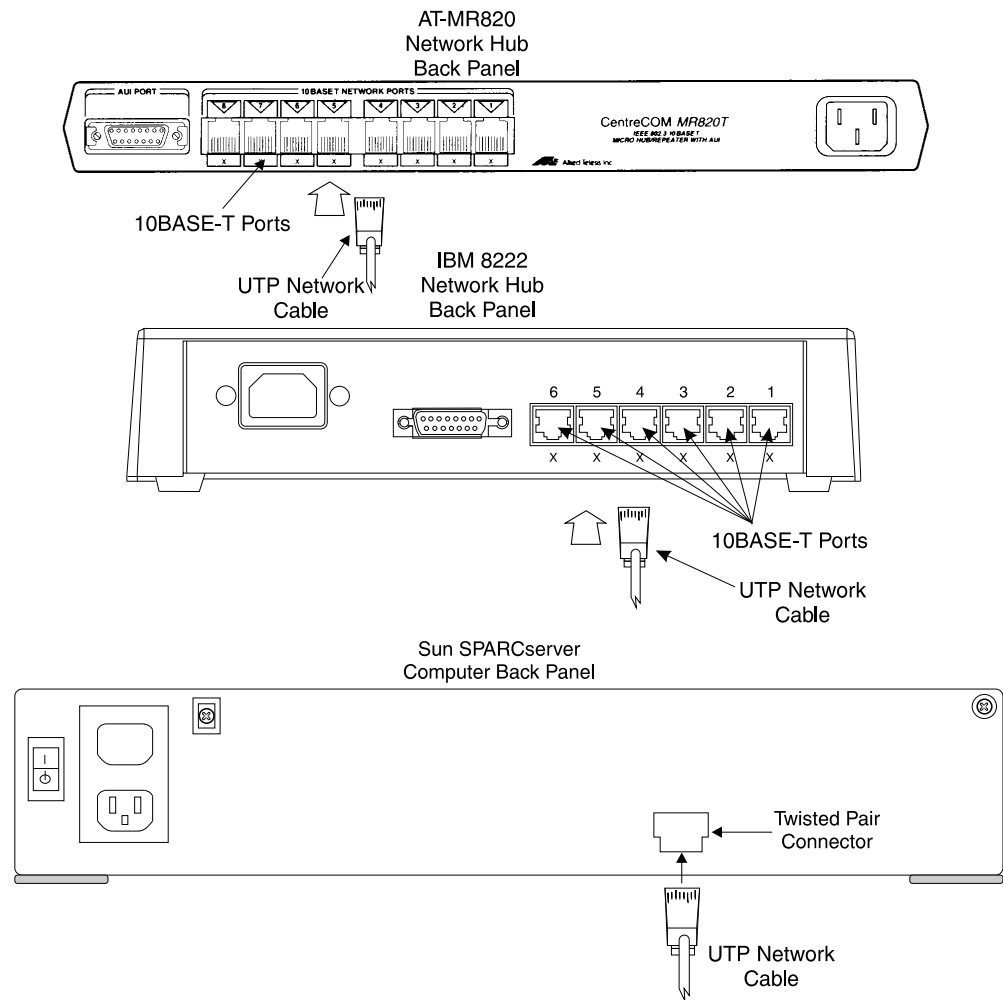

Figure 3-15: Network Hub Units — Back Panel
To connect the Network Hub unit to the *Sun SPARCserver* computer, do the following (see Figure 3-15):
4. Plug the other end of the UTP cable into Port 1 of the 10Base-T ports on the Network Hub unit (see Figure 3-15).